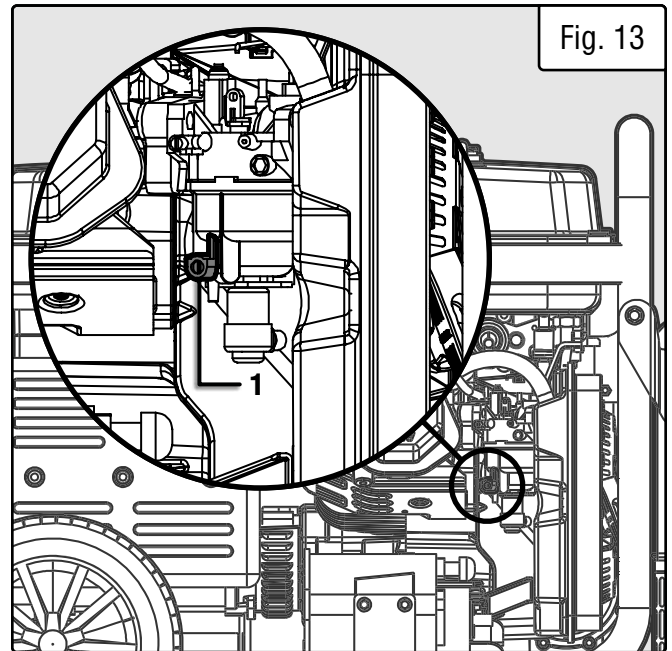

Fig. 13
2. The carburetor can be accessed from the backside of the generator between the engine and the air filter. To drain the carburetor, open up the carburetor drain screw (Fig. 13 - 1) with a Phillips-head screwdriver (not included) and drain out any gasoline that has built up inside.